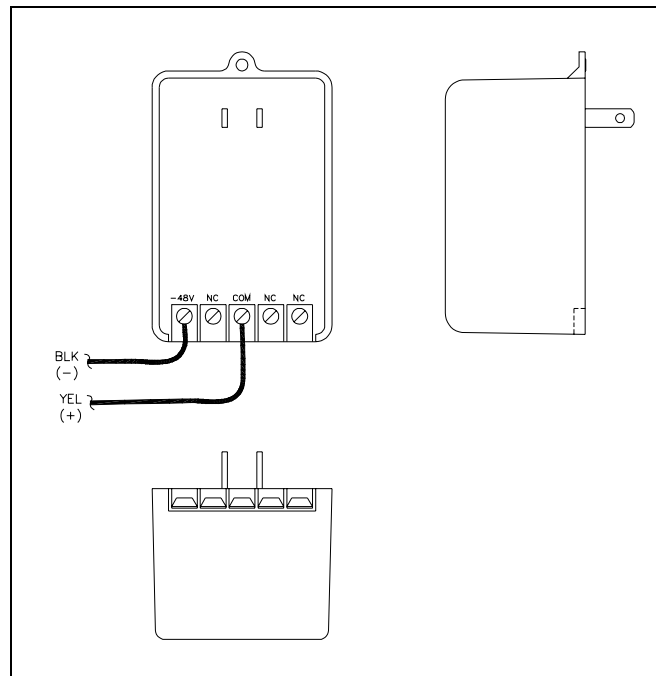

Figure 4. Transformer Details
- Follow Figure 4 to connect the wires to the Model 237-001 Plug-in Transformer. Connect the yellow (+) wire to the terminal labeled COM. Connect the black (-) wire to the terminal labeled -48V.